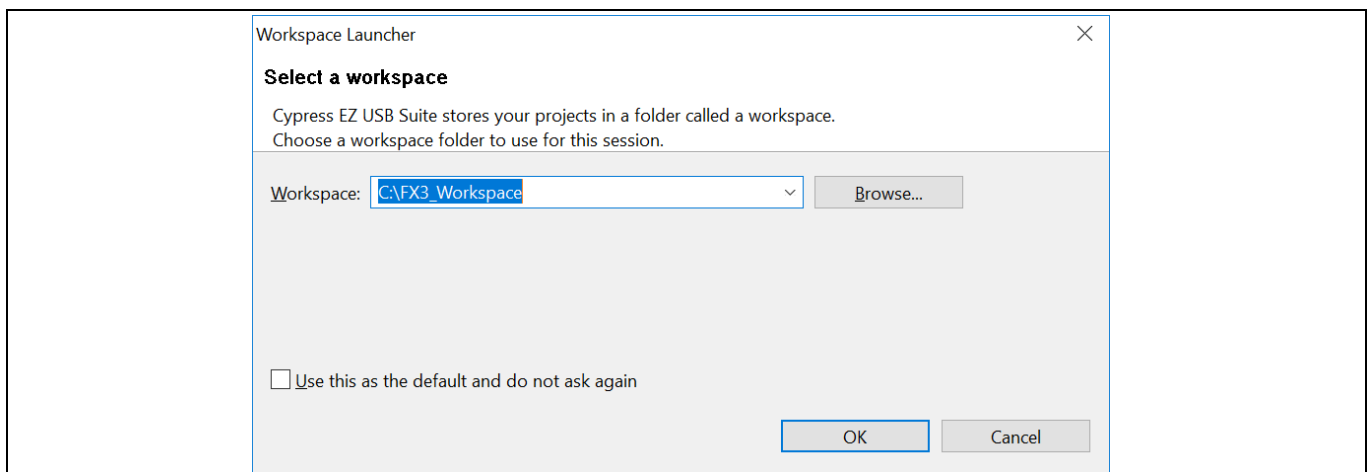

Figure 14 Creating a New Workspace
b) When opening the Eclipse IDE for the first time, you will be prompted to create a Workspace folder as shown in **Figure 14**, where your Eclipse projects will be stored. Make sure you note where you created your workspace. All firmware that you compile will be located in your workspace folder.